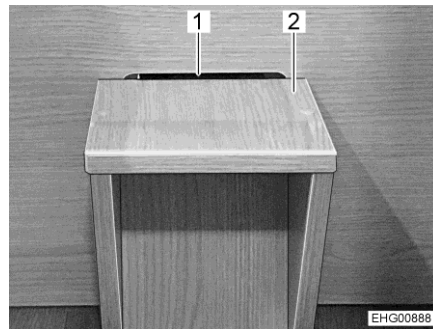
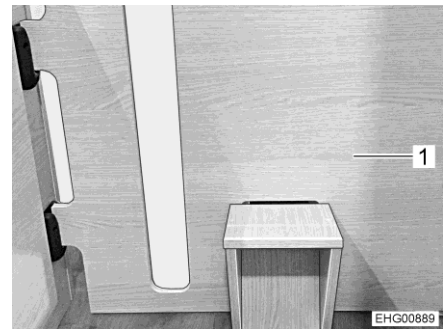

Fig. 50 Step unit
Fig. 51 Partition wall with step unit
- Attach the step unit (Fig. 50,2) to the bottom cut-out (Fig. 50,1) of the partition wall (Fig. 51,1).
- Insert the partition wall (Fig. 51,1) between the longitudinal rear beds. In order to do this, attach the partition wall in the second position (as seen from the kitchenette).